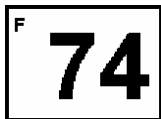
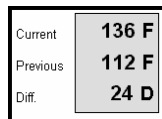
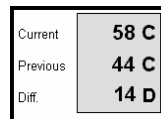
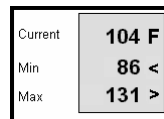

Figure 1
Figure 2
Figure 3
Figure 4
7. The "Flex Temp" has three modes of operation: The factory setting is shown in "Figure 1". This setting displays the current temperature reading in a large number format. Pressing the "PWR/MENU" button will allow access to optional modes of operation. Once the desired mode is displayed, press the "TEMP/SELECT" button to select the mode. The currently selected mode will illuminate the display in green. When the desired modes are selected, press the "PWR/MENU" button until the "EXIT" option appears and then press the "TEMP/SELECT" button to return to operating status. Figure 2 displays the current temperature, the previous reading and the difference between them. The user can select to display temperatures in either °F or °C (figure 3) as well as the "MIN/MAX" mode by following the steps above. This mode (shown in figure 4) displays the current reading, the maximum temperature logged and the minimum temperature logged. To reset the Min and Max values, simply turn the probe off and back on again.